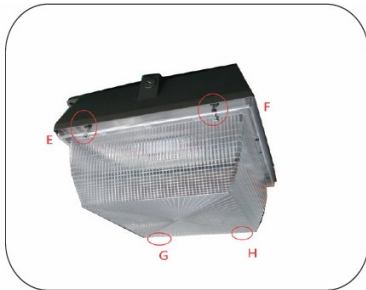

Figure 1
1. Remove the fixtures lens cover, and put in a safe place . **See figure 1.**
6. Attach lens cover to fixture back plate making sure gasket is in place. **See figure 1.**